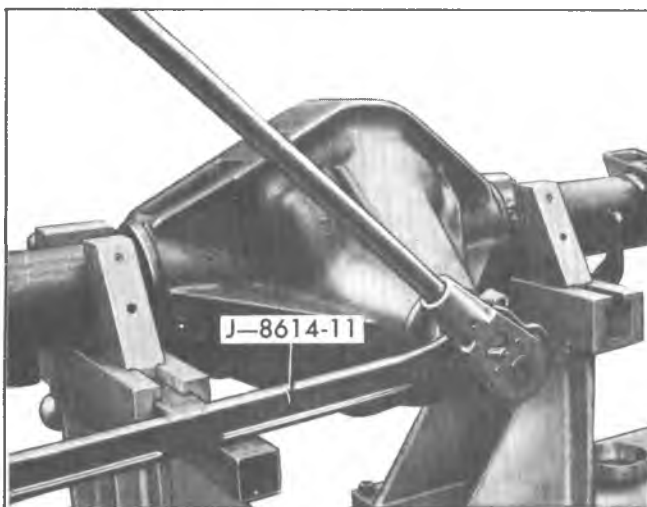

Fig. 5F—Removing Pinion Nut
3. Install Holder J-8614-11 on flange by using two bolts with flat washers, as shown in figure 5F. Position J-8614-11 on flange so that the four notches are toward the flange.